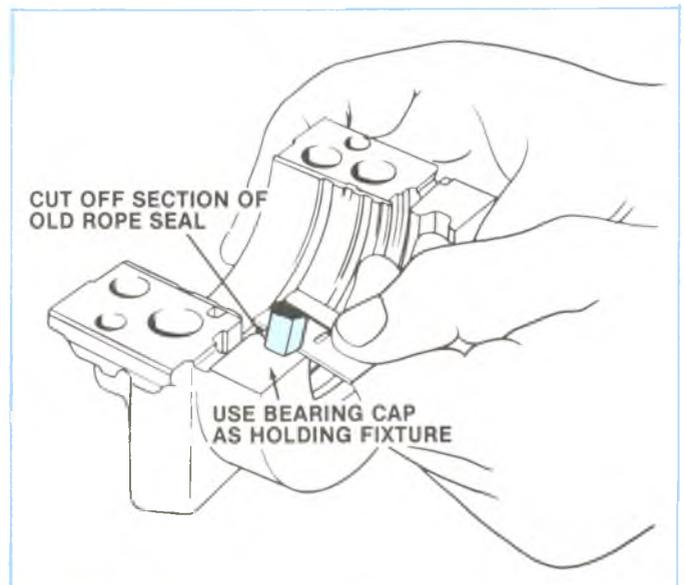

Figure 2-23, Cutting Section of Rope Seal.
4. Measure the amount the seal was driven up on one side; add  $\frac{1}{16}$ ", then cut this length from the old seal removed from the main bearing cap with a single edge razor blade. Measure the amount the seal was driven up on the other side. Add  $\frac{1}{16}$ " and cut another length from old seal. Use main bearing cap as a holding fixture when cutting seal as shown in Figure 2-23.